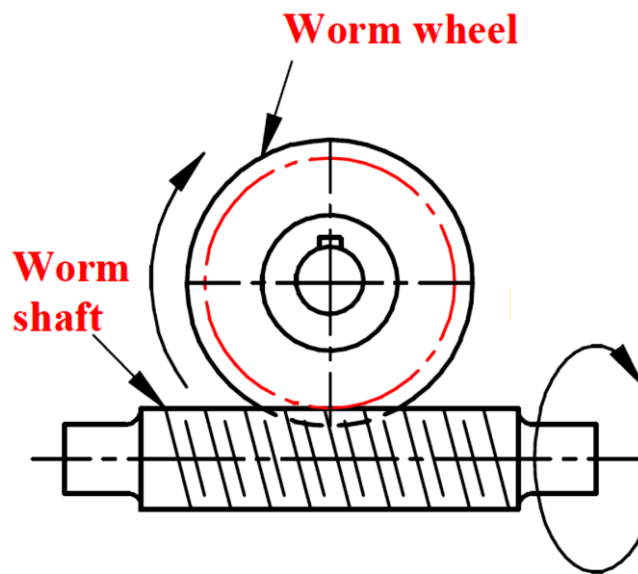

Fig. 4.9 Worm gears
- Worm gears are used to transmit power between two non-parallel, non-intersecting shafts. Fig. 4.9 worm gears.